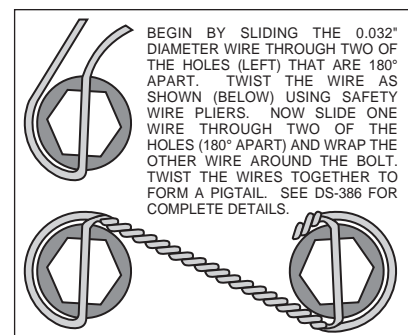
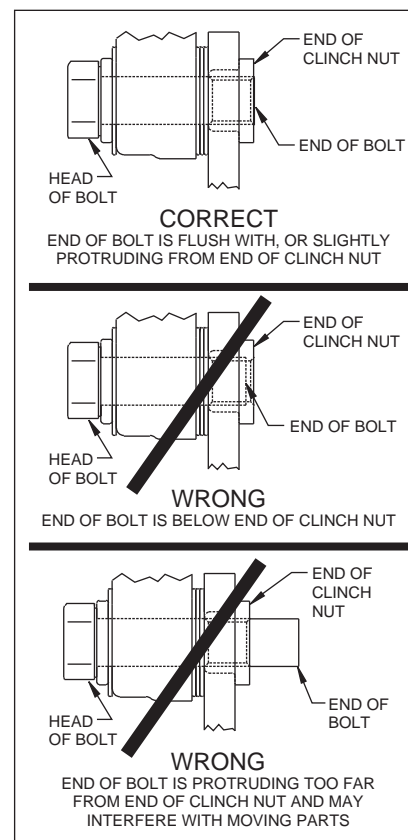

Figure 4. Safety Wire Diagram
Figure 5. Clinch Nut Engagement Diagram
- The rotor (3) has two sides. A flat side and an inset side. Bolt hat (2) to flat side of rotor (3) using bolts (5). Using an alternating sequence, apply red *Loctite*® 271 to the threads and torque bolts to 25 ft-lb. For an added measure of security, the bolts may be safety wired using standard 0.032 inch diameter stainless steel safety wire as shown in Figure 4. Refer to Wilwood's data sheet DS-386 (available at www.wilwood.com/Pdf/DataSheets/ds386.pdf) for complete safety wire installation instructions.
- Align the correct hole pattern in the hat (2) with the stud pattern on the axle flange. **NOTE:** Some OEM and after market axles come with stud sizes larger than 0.50" diameter. Verify stud size and have a qualified machine shop drill the hats to the correct size. Slide the hat/rotor assembly (2 and 3) over the wheel studs and against the axle flange face.
- NOTE:** Please reference the caution statement at the beginning of the assembly instructions. Mount the caliper (6) over the rotor (3) and onto the caliper mounting bracket (1) using washers (7) and mounting bolts (8). View the rotor through the top opening of the caliper. The rotor should be aligned in the center of the caliper. If not, adjust the caliper by using 0.032 inch shims (9) by placing them between the caliper mounting bracket (1) and the caliper (6). Add as many shim washers (9) as necessary to achieve the correct alignment. **NOTE:** The end of the bolt must be flush with or slightly protruding from the head of the clinch nut. See Figure 5. Place spare shims (9) between washer and caliper mounting ear to achieve the proper mounting fastener configuration. Always use the same amount of shims on both the top and bottom caliper mounting bolts (8). Apply red *Loctite*® 271 to the mounting bolt threads (8), torque to 40 ft-lb. Caliper bolts may be safety wired for additional security.
- Position the Wilwood disc brake pads (10) into the caliper (6) and fasten with cotter pin (4). Steel backing plate side of brake pad should face the caliper pistons.